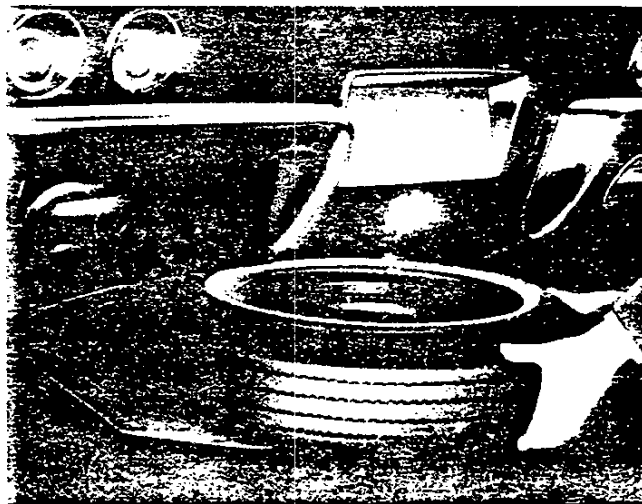

Fig. 4—Removing Spare Tire
1. Loosen and disconnect latch on hinged spare tire compartment drop lid and lower lid and spare tire. Slide spare tire out of compartment (fig. 4).